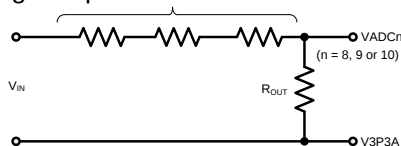
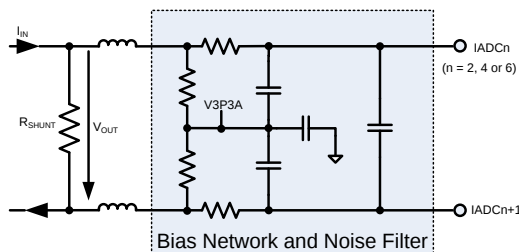
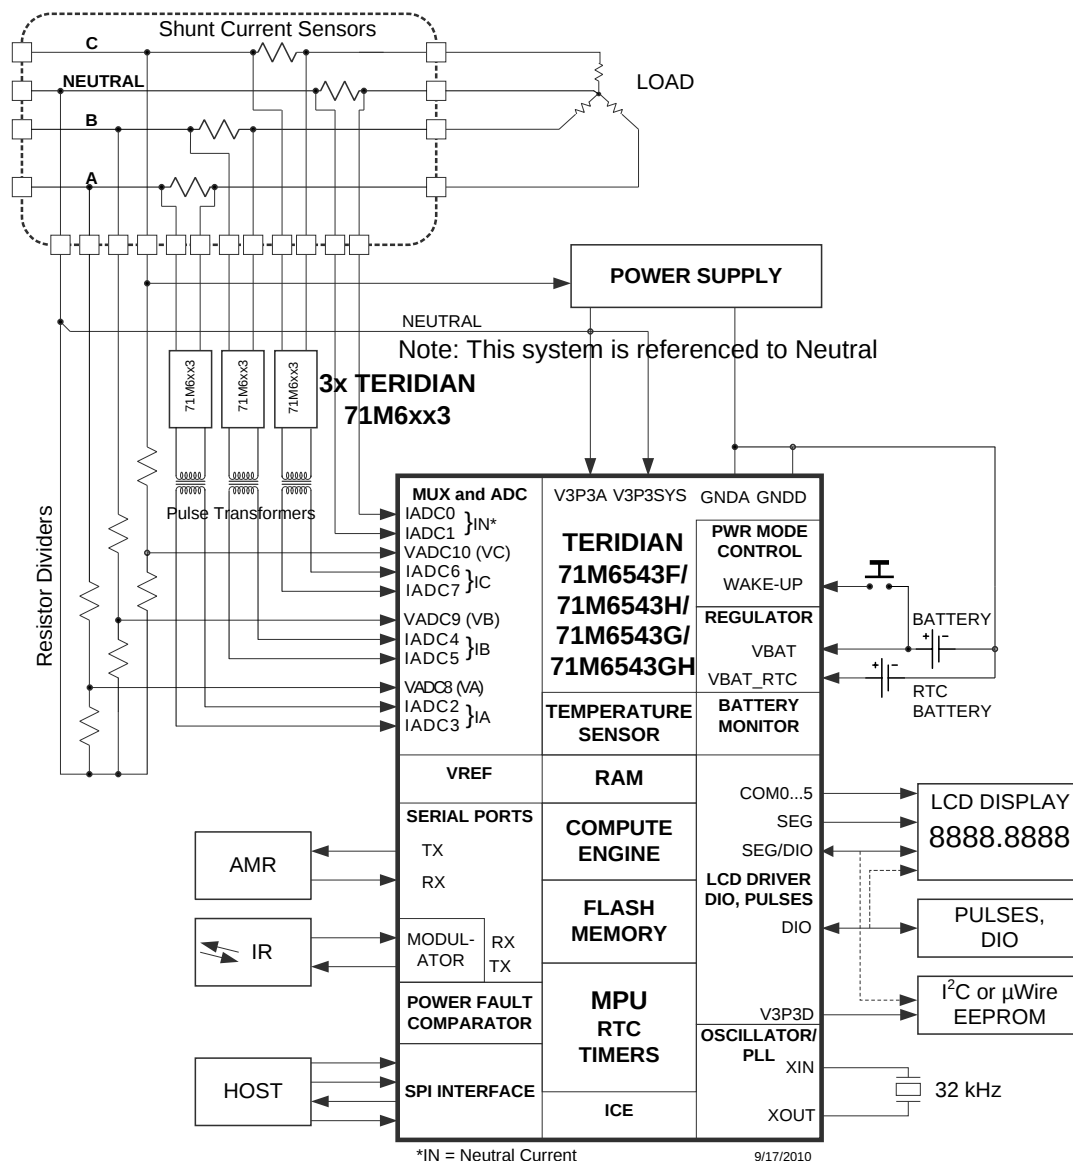
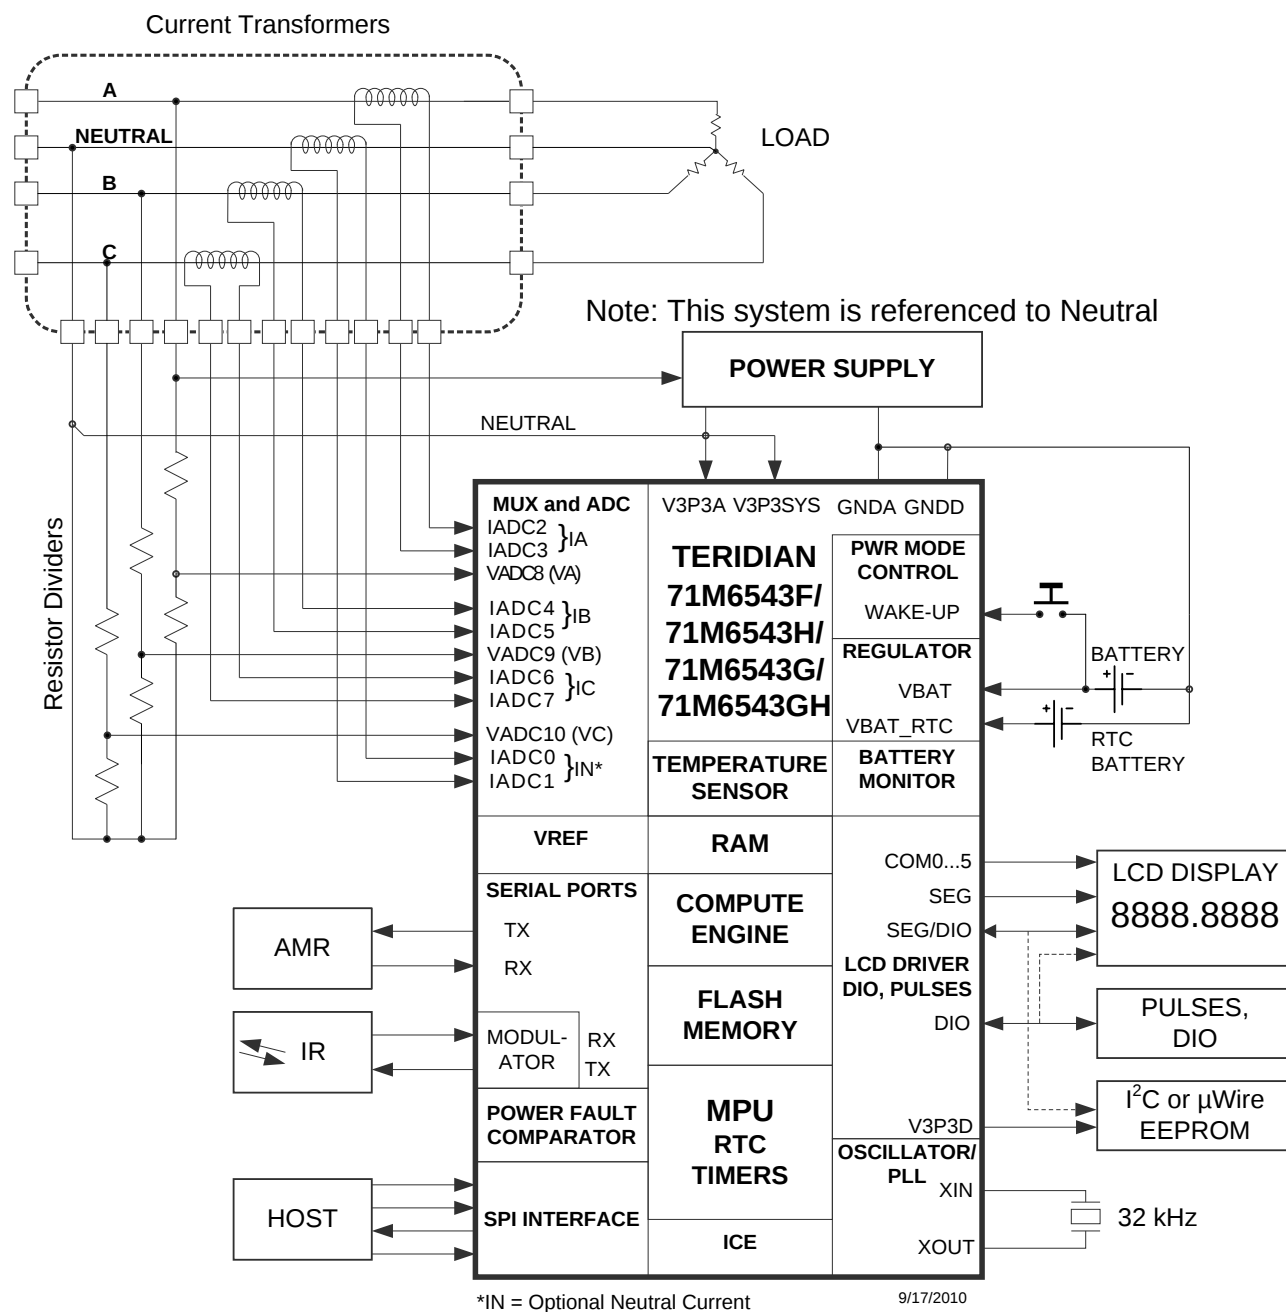

Figure 27: Resistive Voltage Divider (Voltage Sensing)
Figure 30: Differential Resistive Shunt Connections (Current Sensing)
Figure 31: System Using Three-Remotes and One-Local (Neutral) Sensor
Figure 32. System Using Current Transformers
Figure 27 through Figure 30 show voltage-sensing resistive dividers, current-sensing current transformers (CTs) and current-sensing resistive shunts and how they are connected to the voltage and current inputs of the 71M6543. All input signals to the 71M6543 sensor inputs are voltage signals providing a scaled representation of either a sensed voltage or current.
Figure 31 shows a typical connection for current shunt sensors; using the 71M6xx3 (polyphase) isolated sensors. Note that one shunt current sensor is connected without isolation, which is the neutral current sensor in this example (connected to pins IADC0-IADC1). Each 71M6xx3 device is electrically isolated by a low-cost pulse transformer. The 71M6543 current sensor inputs must be configured for remote sensor communications, as described in 2.2.8 71M6xx3 Isolated Sensor Interface (page 22). Flexible remapping using the I/O RAM registers *MUXn_SEL[3:0]* allows the sequence of analog input pins to be different from the standard configuration (a corresponding CE code must be used). See Figure 2 for the AFE configuration corresponding to Figure 31.
Figure 32 shows a polyphase system using four current transformers to support optional Neutral current sensing for anti-tamper purposes. The Neutral current sensing CT can be omitted if Neutral current sensing is not required. The system is referenced to Neutral (i.e., the Neutral rail is tied to V3P3A and V3P3SYS).
This section discusses metrology temperature compensation for the meter designs where current shunt sensors are used in conjunction with Teridian's 71M6xx3 remote isolated sensors, as shown in Figure 31.
Referring to Figure 31, the VADC8 (VA), VADC9 (VB) and VADC10 (VC) voltage sensors are always directly connected to the 71M6543. Thus, the precision of the voltage sensors is primarily affected by VREF in the 71M6543. The temperature coefficient of the resistors used to implement the voltage dividers for the voltage sensors (see Figure 27) determine the behavior of the voltage division ratio with respect to temperature. It is recommended to use resistors with low temperature coefficients, while forming the entire voltage divider using resistors belonging to the same technology family, in order to minimize the temperature dependency of the voltage division ratio. The resistors must also have suitable voltage ratings.
Table 67 shows the five *GAIN_ADJ_x* equation output storage locations and the voltage or current sensor channels for which they compensate for the 1 Local / 3 Remote configuration shown in Figure 31.
Table 67: GAIN_ADJ_n Compensation Channels (Figure 2, Figure 31, Table 1)
This section discusses metrology temperature compensation for meter designs where Current Transformer (CT) sensors are used, as shown in Figure 32.
Referring to Figure 32, the VADC8 (VA), VADC9 (VB) and VADC10 (VC) voltage sensors are directly connected to the 71M6543. Thus, the precision of the voltage sensors is primarily affected by VREF in the 71M6543. The temperature coefficient of the resistors used to implement the voltage dividers for the voltage sensors (see Figure 27) determine the behavior of the voltage division ratio with respect to temperature. It is recommended to use resistors with low temperature coefficients, while forming the entire voltage divider using resistors belonging to the same technology family, in order to minimize the temperature dependency of the voltage division ratio. The resistors must also have suitable voltage ratings.
Table 68: $GAIN_ADJ_x$ Compensation Channels (Figure 3, Figure 32, Table 2)